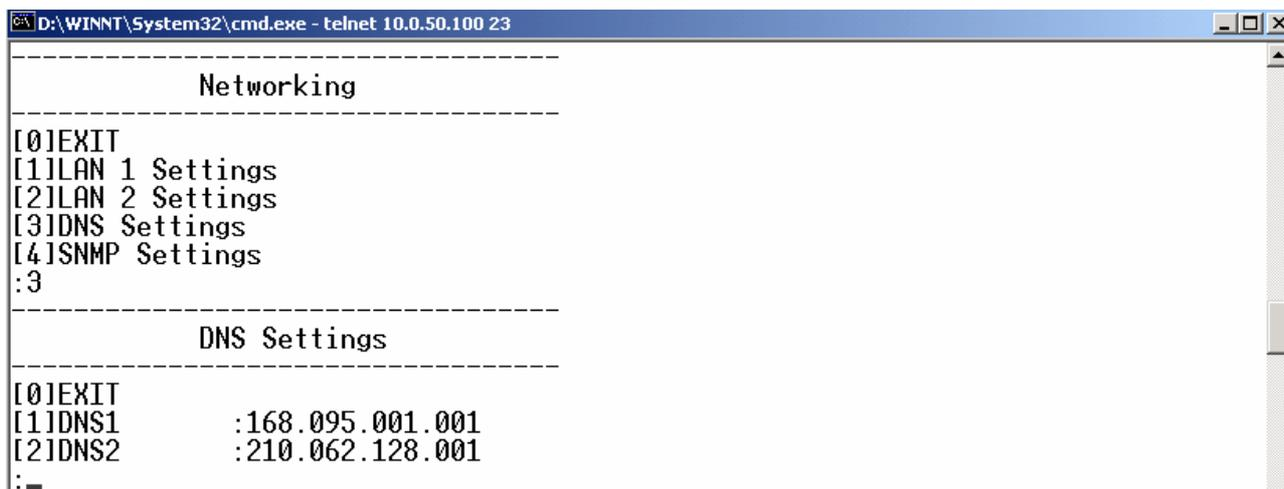

Figure 3.8 DNS configuring using Telnet
->Enter “3” on “Networking” to select “DNS Settings” ( Figure 3.8)